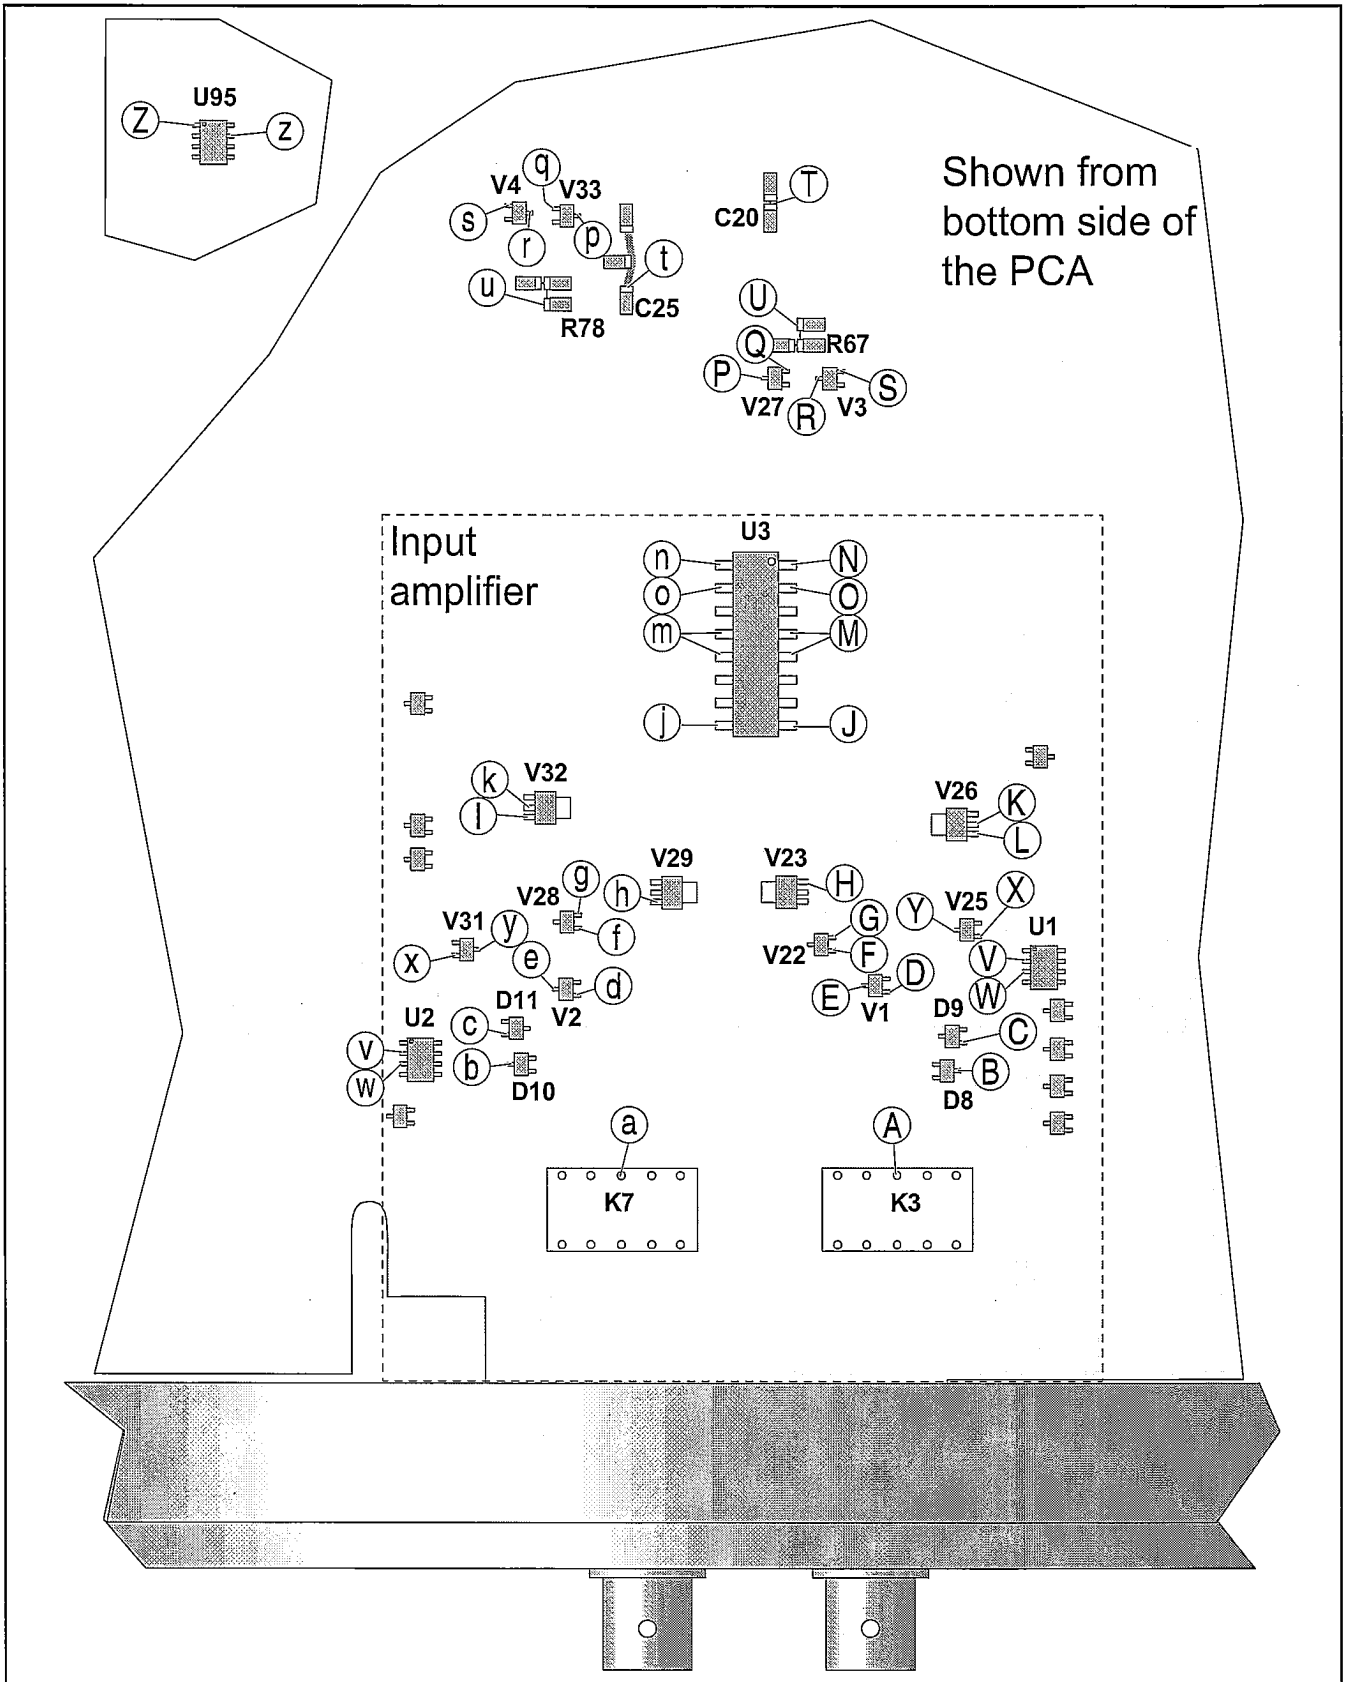

Figure 5-22 Typical voltages, Input Amplifier.
- Measure the DC voltages according to Figure 5-22 and Table 5-7. Use the DMM with a 10 k $\Omega$  resistor in series with the test cable.
- Measure the AC-levels according to Figure 5-22 and Table 5-7. Use the oscilloscope and a 10 M $\Omega$  probe.